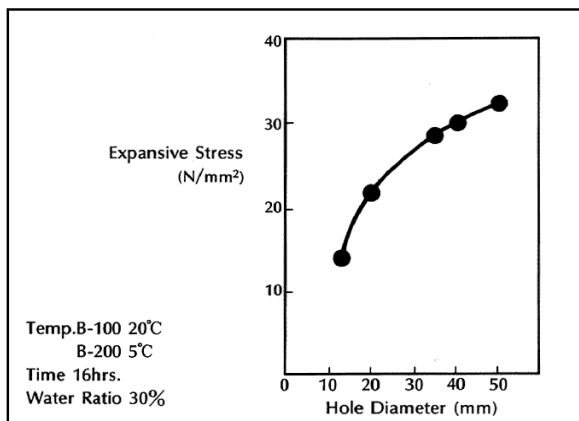

Fig.3: The relation between the expansive stress and hole diameter
2)The larger the hole diameter is, the greater the expansive stress becomes (Fig.3).